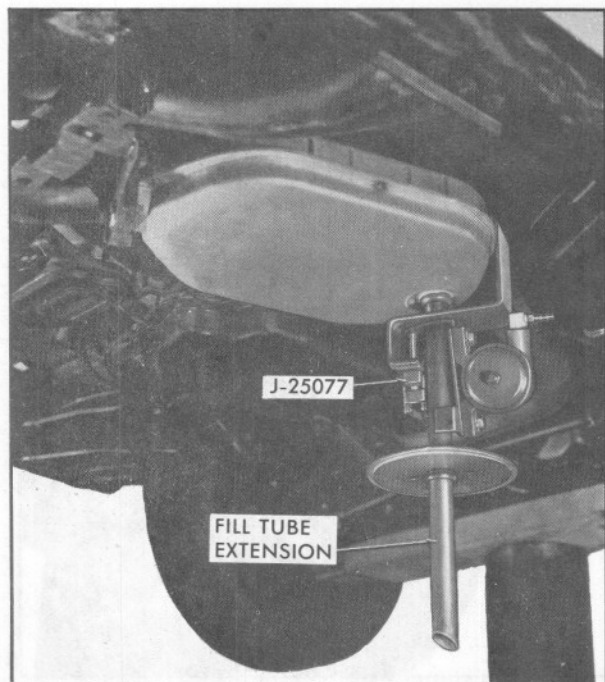

Fig. 8-9 Fill Tube Extension
2. Install fill tube extension to the fixture, Fig. 8-9.